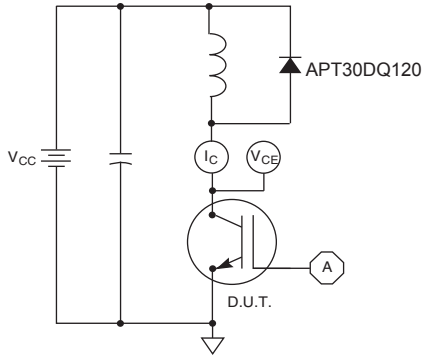

Figure 21, Inductive Switching Test Circuit
① Repetitive Rating: Pulse width limited by maximum junction temperature.
② For Combi devices,  $I_{ces}$  includes both IGBT and FRED leakages
③ See MIL-STD-750 Method 3471.
④  $E_{on1}$  is the clamped inductive turn-on energy of the IGBT only, without the effect of a commutating diode reverse recovery current adding to the IGBT turn-on loss. Tested in inductive switching test circuit shown in figure 21, but with a Silicon Carbide diode.
⑤  $E_{on2}$  is the clamped inductive turn-on energy that includes a commutating diode reverse recovery current in the IGBT turn-on switching loss. (See Figures 21, 22.)
⑥  $E_{off}$  is the clamped inductive turn-off energy measured in accordance with JEDEC standard JESD24-1. (See Figures 21, 23.)
⑦  $R_G$  is external gate resistance not including gate driver impedance.